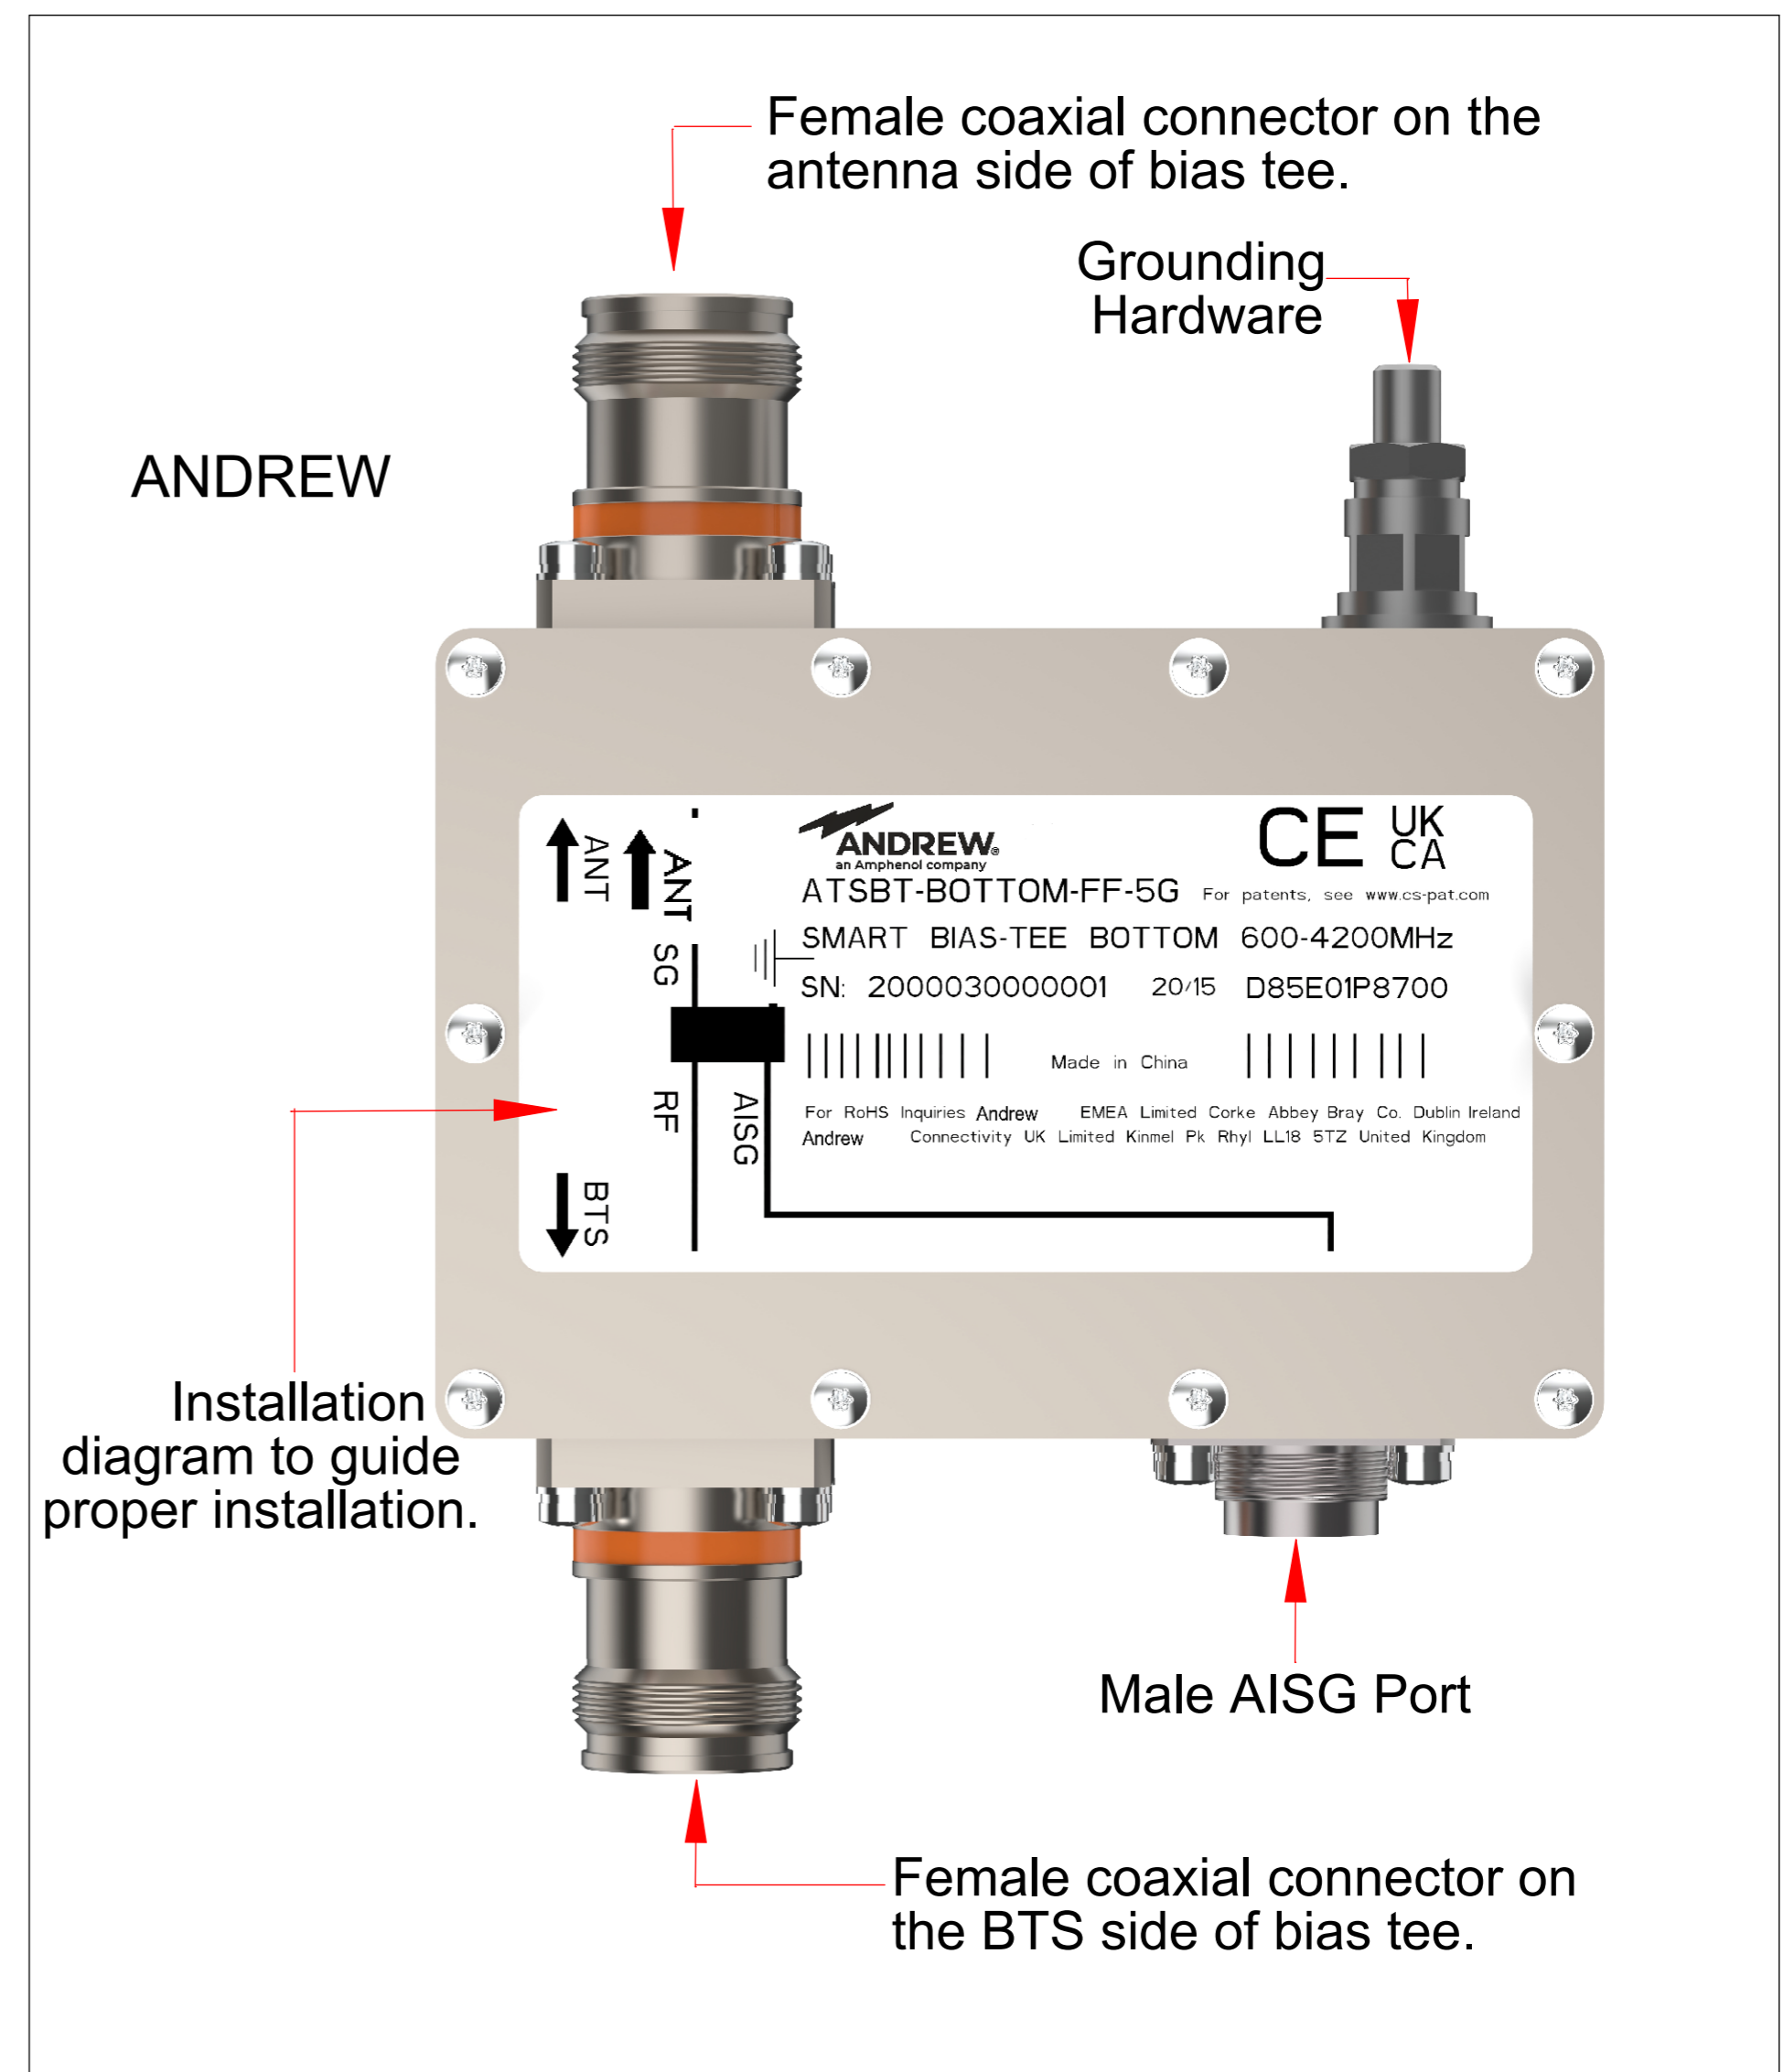

Figure 1. ATSBT-BOTTOM-FF-5G Smart Bias Tee.
- Each Smart Bias Tee includes grounding hardware that can be used with the ATGK-COMP grounding kit for added lightning protection (Figure 1). This is an optional grounding point, not must. Better to apply when RF cable is over 1 meter.